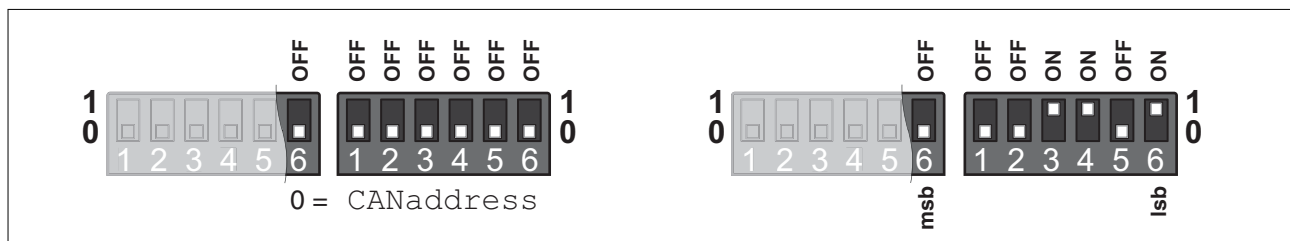

Figure 76: DIP switch device address (example to the right: device address 13 by means of DIP switches)
- Set the device address via the DIP switches, see Figure 76.